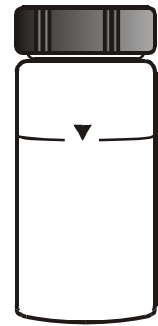

Figure 7:
- 2 Obtain a clean and dry sample vial (Figure 7).